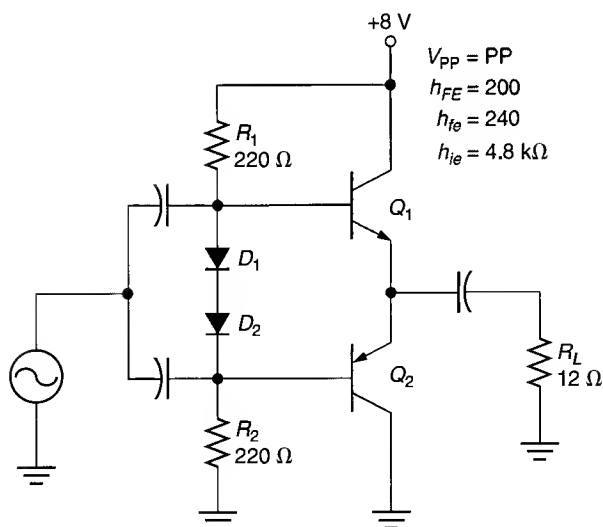

FIGURE 11.56
33. Determine the values of V_{CEQ} , $V_{B(Q1)}$, and $V_{B(Q2)}$ for the class AB amplifier in Figure 11.56.
35. Calculate the maximum efficiency of the class AB amplifier in Figure 11.56.
44. Calculate the maximum allowable input power for the amplifier in Figure 11.56.